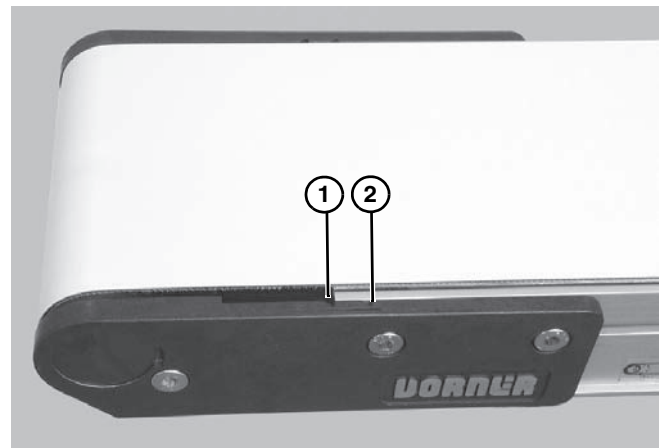

Figure 33
2. Adjust head plate assembly so end of conveyor frame aligns with or between the head plate tensioning marks (Figure 33, item 1 & 2). Replace belt if proper tensioning can not be obtained while aligning the end of the conveyor frame with or between the tensioning marks. See NOTE.